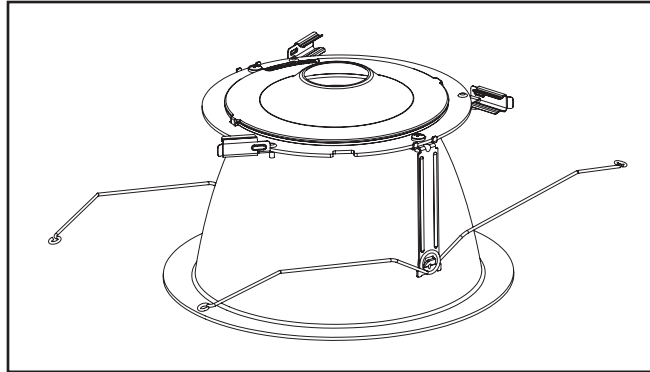

Figure 9.
1. Remove lower trim from protective packaging. Rotate side clips (3) outwards. (Figure 9.) Remove LED Engine from protective packaging.